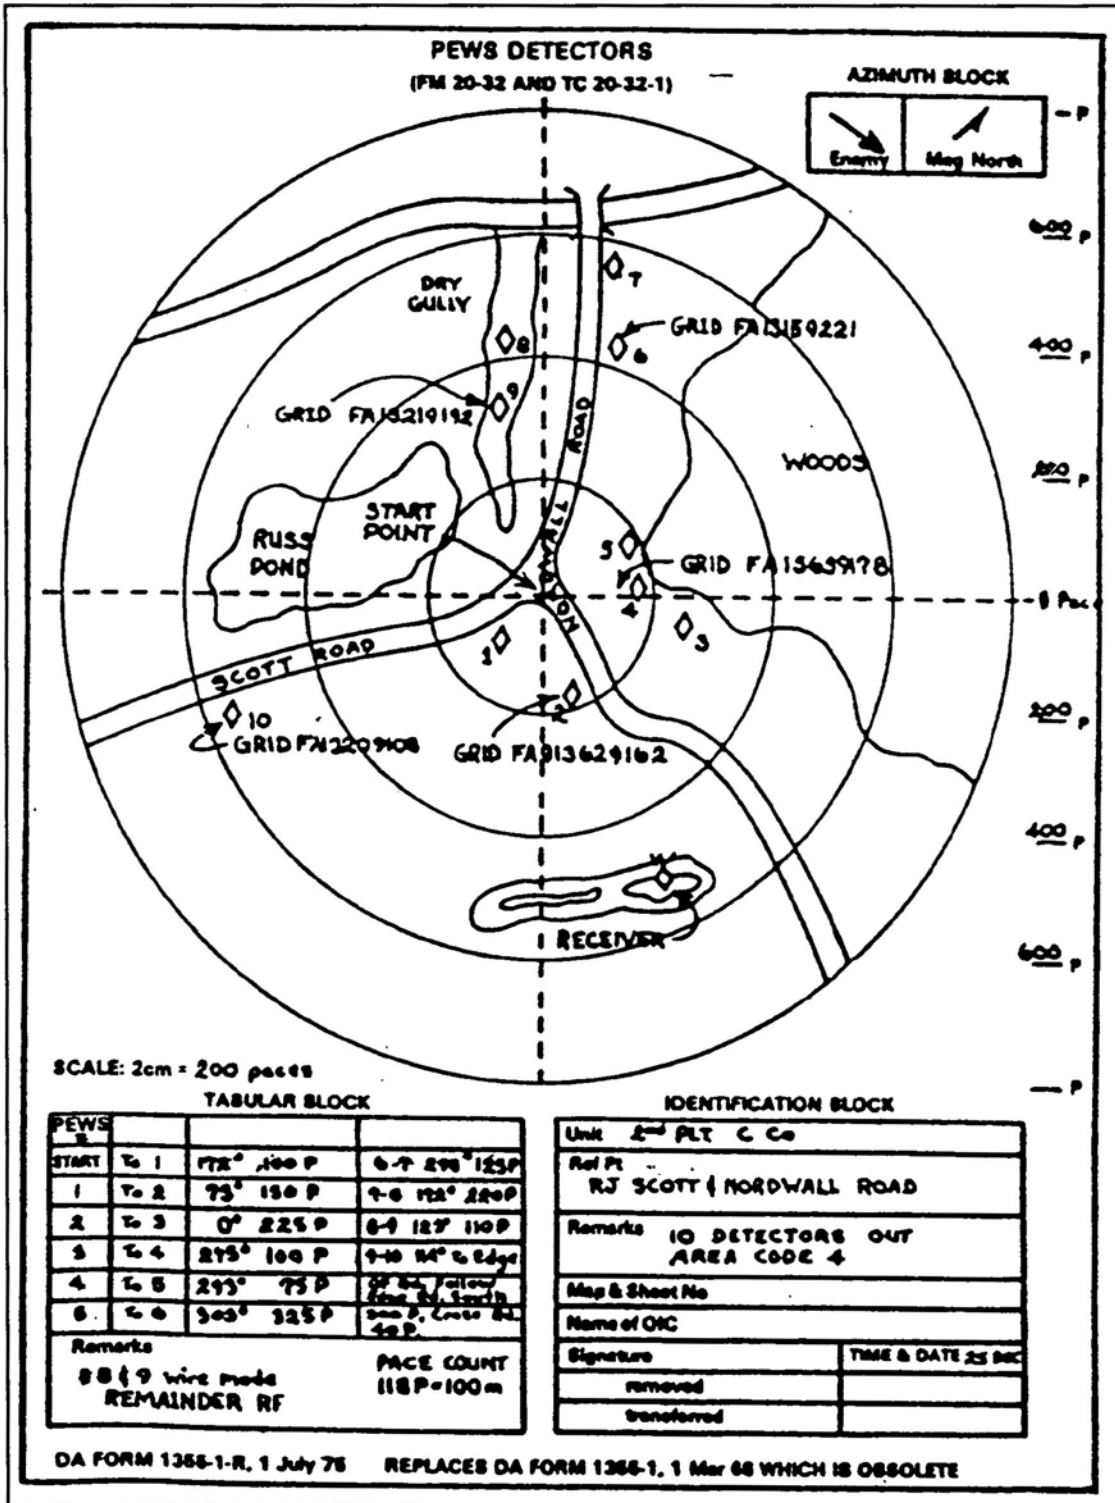

Figure 4. PEWS detector record using hasty protective minefield record.
- a. Draw a rough sketch (Figures 4 and 5).
- (1) On the sketch, include easily identifiable natural and manmade features.
- (2) Label features, such as roads, trails, rivers, and manmade objects, that can be used to identify the area of emplacement of detectors.
- (3) Identify the start point of the emplacement of detectors.
- (4) Include on the sketch the following items: